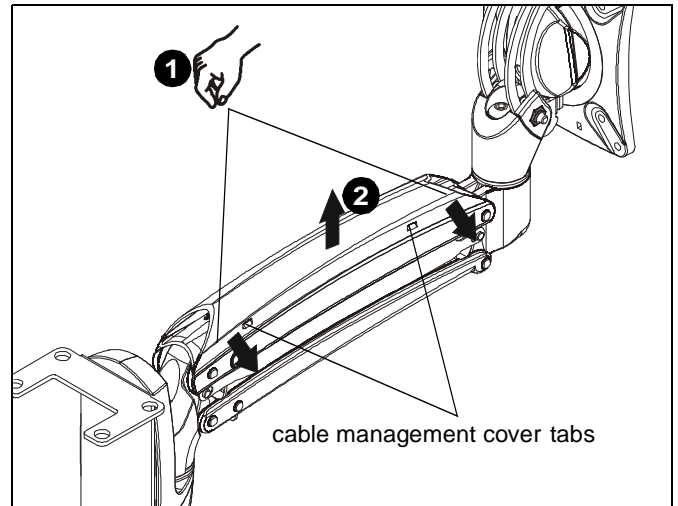

Figure 15
1. Press insides of cable management covers at both ends to unhinge tabs on either end of cable management cover on upper arm. (See Figure 15)
2. Lift cable management cover up until tabs are unhinged and cover is in the "open" position. (See Figure 15)